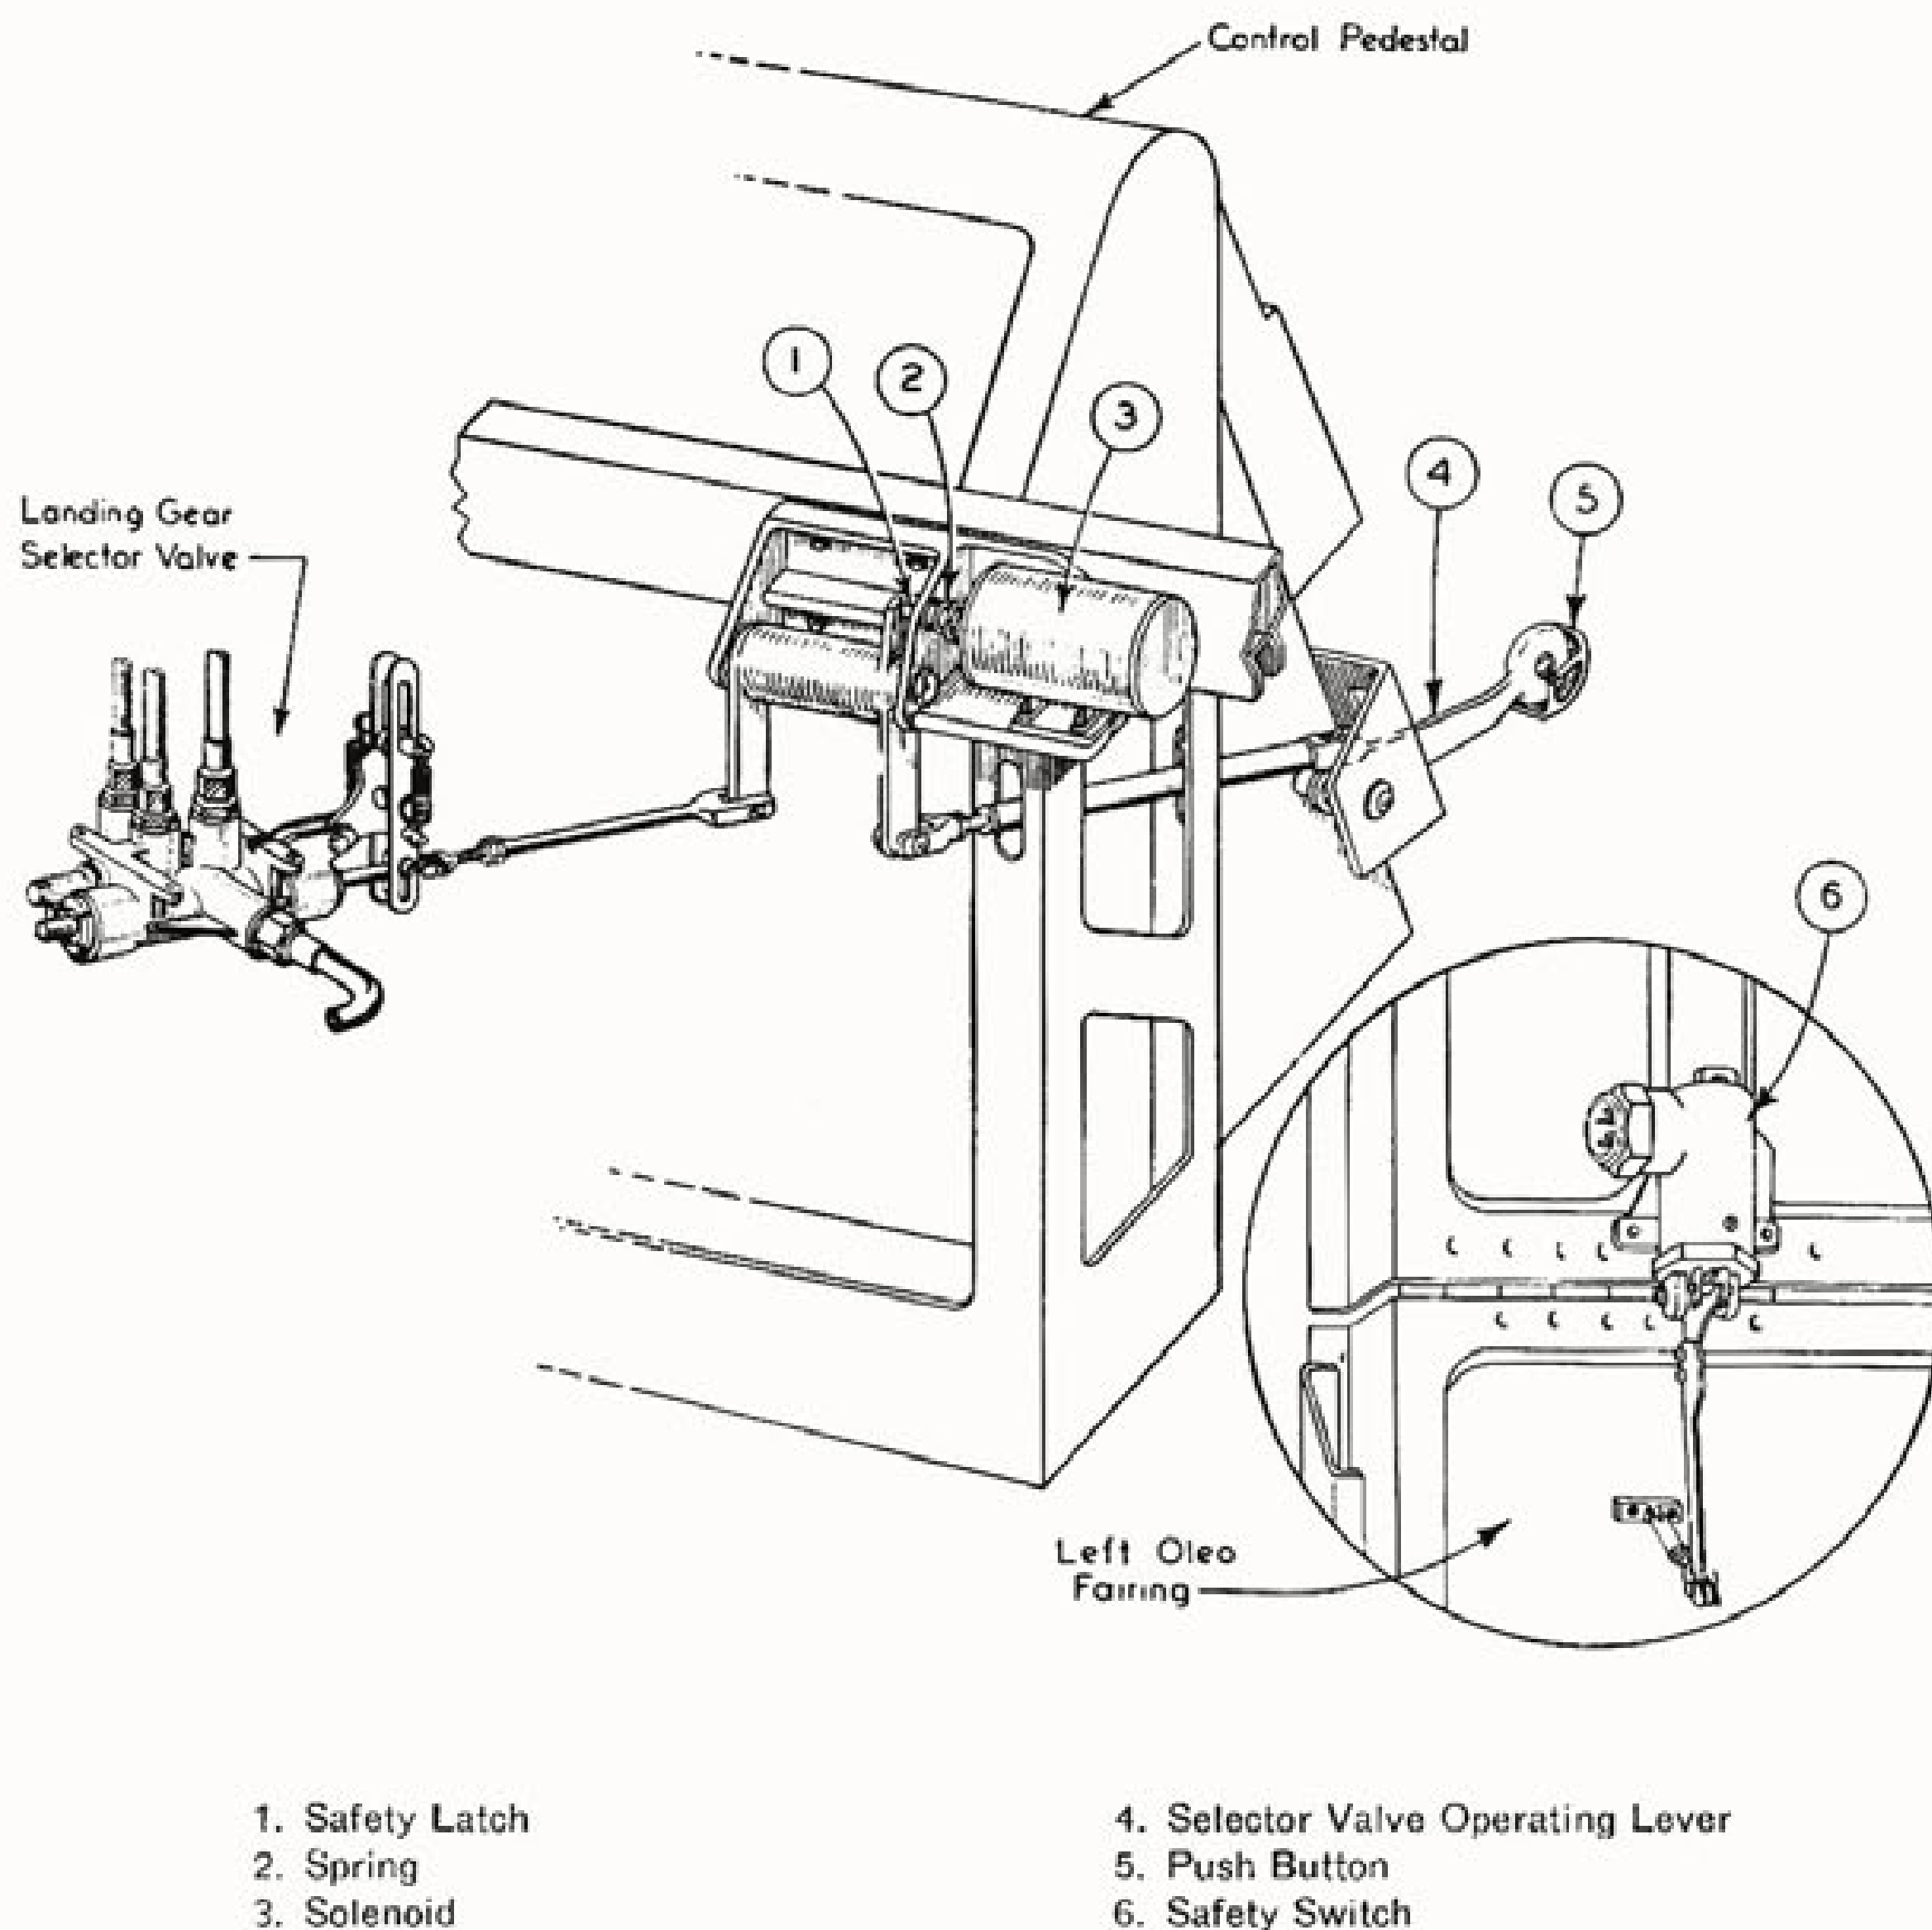

Figure 21—Landing Gear Safety Lock System
The landing gear safety lock system is illustrated in Figure 21. Movement of landing gear selector valve operating lever (4) into the *gear up* position is restrained by a solenoid operated latch (1) which is controlled by two switches in series. One switch is a push button (5) on the selector valve operating lever; the other switch (6), located on the left main landing gear oleo fairing, closes only when the oleo strut extends.
Since switch (6), Figure 21, closes only when the oleo strut extends, it is impossible to move lever (4) into the *gear up* position and thus raise the landing gear while the oleo struts are supporting the airplane. The oleo struts extend only when the airplane is placed on wing jacks, or when the airplane leaves the ground in flight. The selector valve operating lever can be moved aft to the *gear down* position without restraint. The solenoid operated safety latch (1), restrains lever (4) from the *gear up* position only.
If the electrical circuit fails in flight and solenoid latch (1), Figure 21, fails to release, release the latch with a screw driver or other suitable tool, working from the left side of the pilot's pedestal. The solenoid latch operates easily if the landing gear selector valve operating lever is in neutral position.